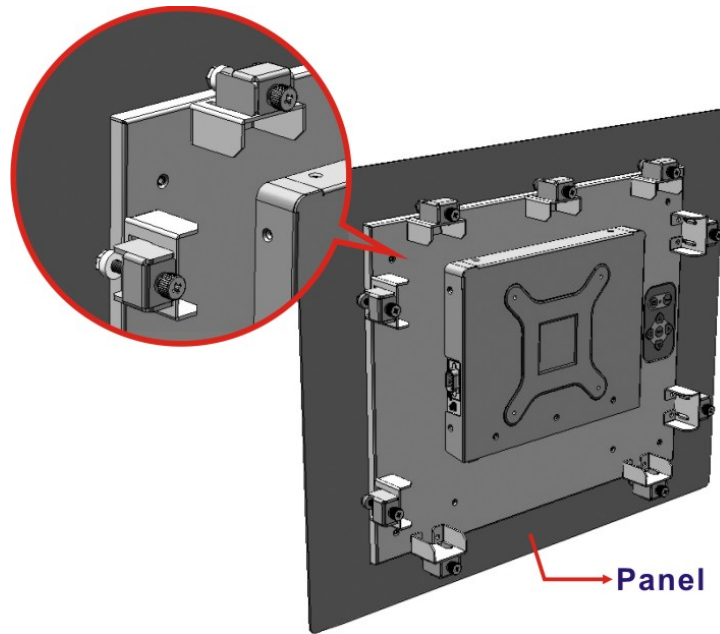

Figure 3-25: Panel Mounting Clamp Installation
Step 5: Insert the panel mounting clamps into the pre-formed holes of the clamp holders (Figure 3-25).
Step 6: Tighten the screws that pass through the panel mounting clamps until the plastic caps at the front of all the screws are firmly secured to the panel (Figure 3-25).